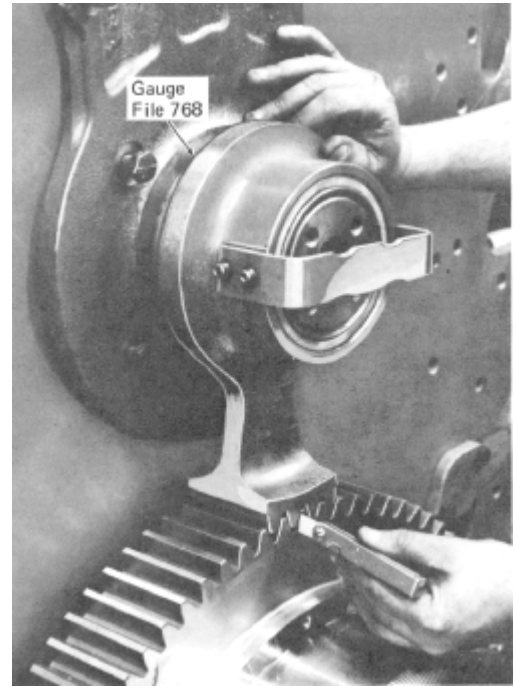

Fig. 7-6 - Checking No. 1 Idler Gear To Crankshaft Gear Backlash
7. Apply the idler gear gauge (File 768) to the No. 1 idler gear stubshaft, Fig. 7-6, and place a feeler gauge between the idler gear gauge teeth and the crankshaft gear teeth to check the gear backlash which is specified in the Service Data at the end of this section.